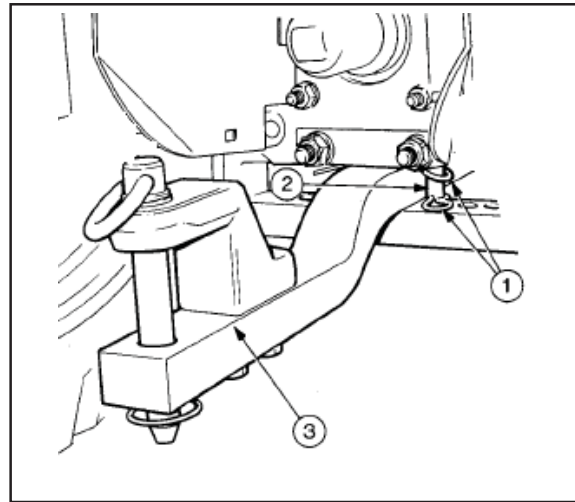
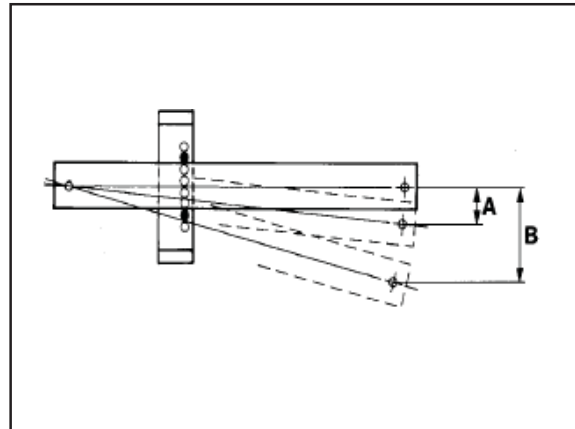

Fig. 74
Fig. 75
The drawbar (Fig. 75) may be fixed in any one of five positions or allowed to swing the full width of the frame.
The maximum lateral swing is 240mm (9.5 in). To change the position of the drawbar ( Fig. 74)
1. Remove the four 'R' clips (1).
2. Remove the two limit pins (2).
3. Reposition the drawbar (3), and refit the pins and 'R' clips (Fig. 74), or leave it free to swing. Store the pins and 'R' clips in the tool box when not in use. Drawbar off-set when in the center hole (Fig. 75).